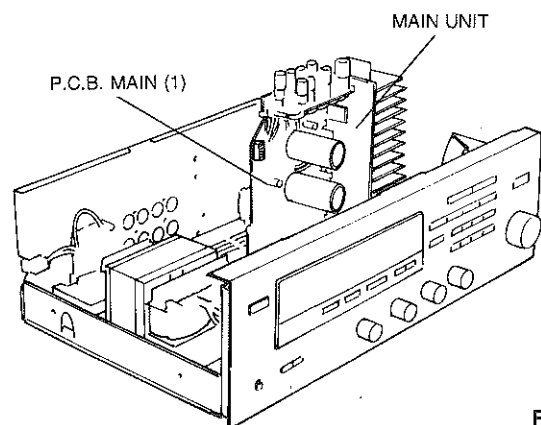

Fig. 4
f. Place the Main Unit on its side as shown in Fig. 4.